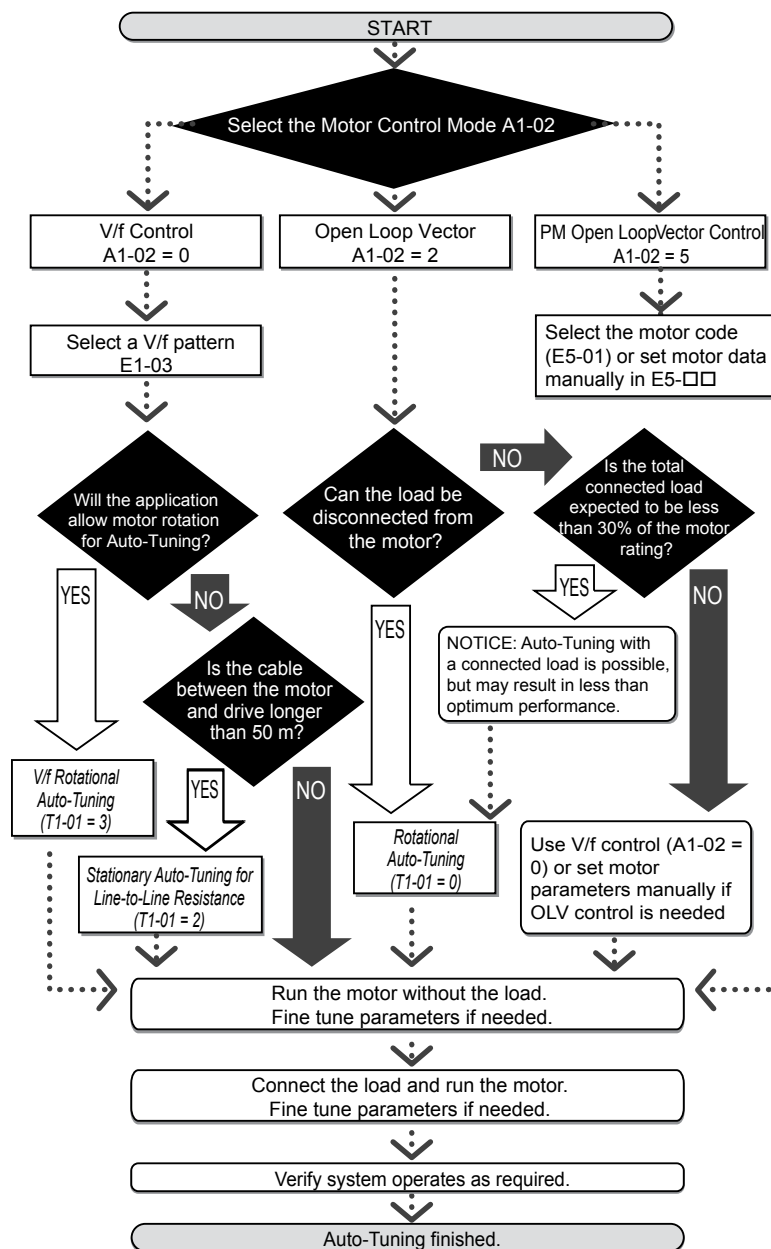

Figure 4.14 Auto-Tuning Selection
2. Determine which type of Auto-Tuning best fits the application requirements following *Figure 4.14*.